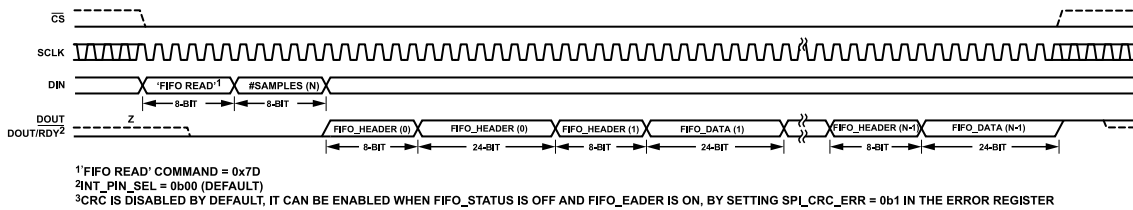
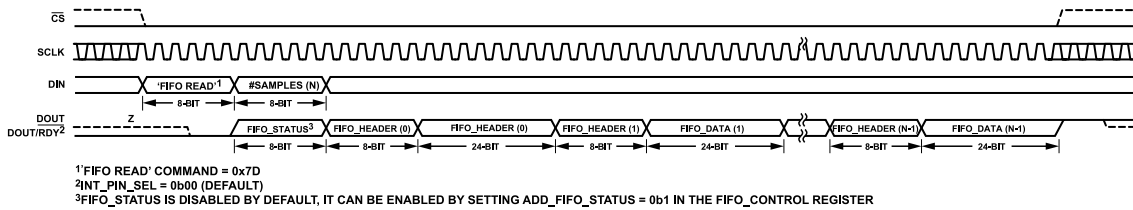

Figure 104. FIFO Readback Default (FIFO\_STATUS Append Off and FIFO\_HEADER Append On)
Figure 105. FIFO Readback (FIFO\_STATUS Append On and FIFO\_HEADER Append On)
By default, the FIFO\_HEADER is enabled and the FIFO\_STATUS append is disabled, so the FIFO readback diagram looks as Figure 104. If the FIFO\_STATUS append is enabled, the FIFO readback diagram looks as Figure 105.
The FIFO\_STATUS register content (see Table 71) can be enabled to be added and read before the FIFO\_DATA and during the # samples (N) byte (see Figure 105), by setting ADD\_FIFO\_STATUS bit to 1 in the FIFO\_CONTROL register (see Table 69). This way, the user can detect an error earlier on and abort the FIFO\_DATA readback.